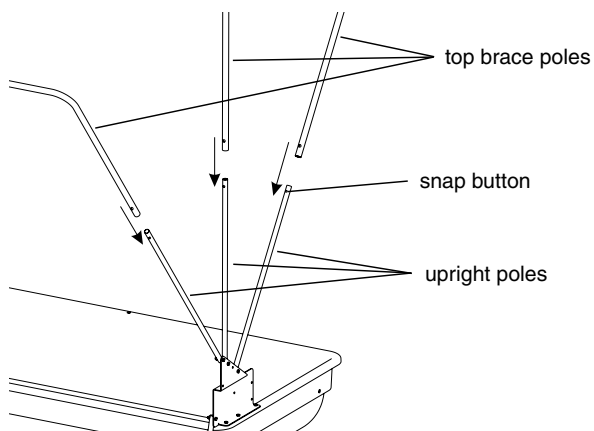

FIGURE 7
3. Take the (3) hinge upright poles from each hinge assembly and insert them into the (3) assembled top cross brace poles (large loop poles). Push the snap buttons inward and allow cross brace poles to go over hinge poles and slide them to their shortest height (transport mode). **SEE FIGURE 7.**
- Take the (3) hinge upright poles from each hinge assembly and insert them into the (3) assembled top cross brace poles (large loop poles). Push the snap buttons inward and allow cross brace poles to go over hinge poles and slide them to their shortest height (transport mode). **SEE FIGURE 7.**